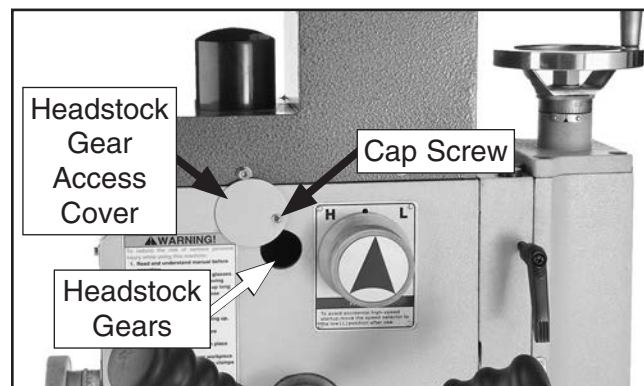

Figure 40. Headstock access cover and cap screw location.
1. Remove cap screw and headstock gear access cover shown in **Figure 40**.